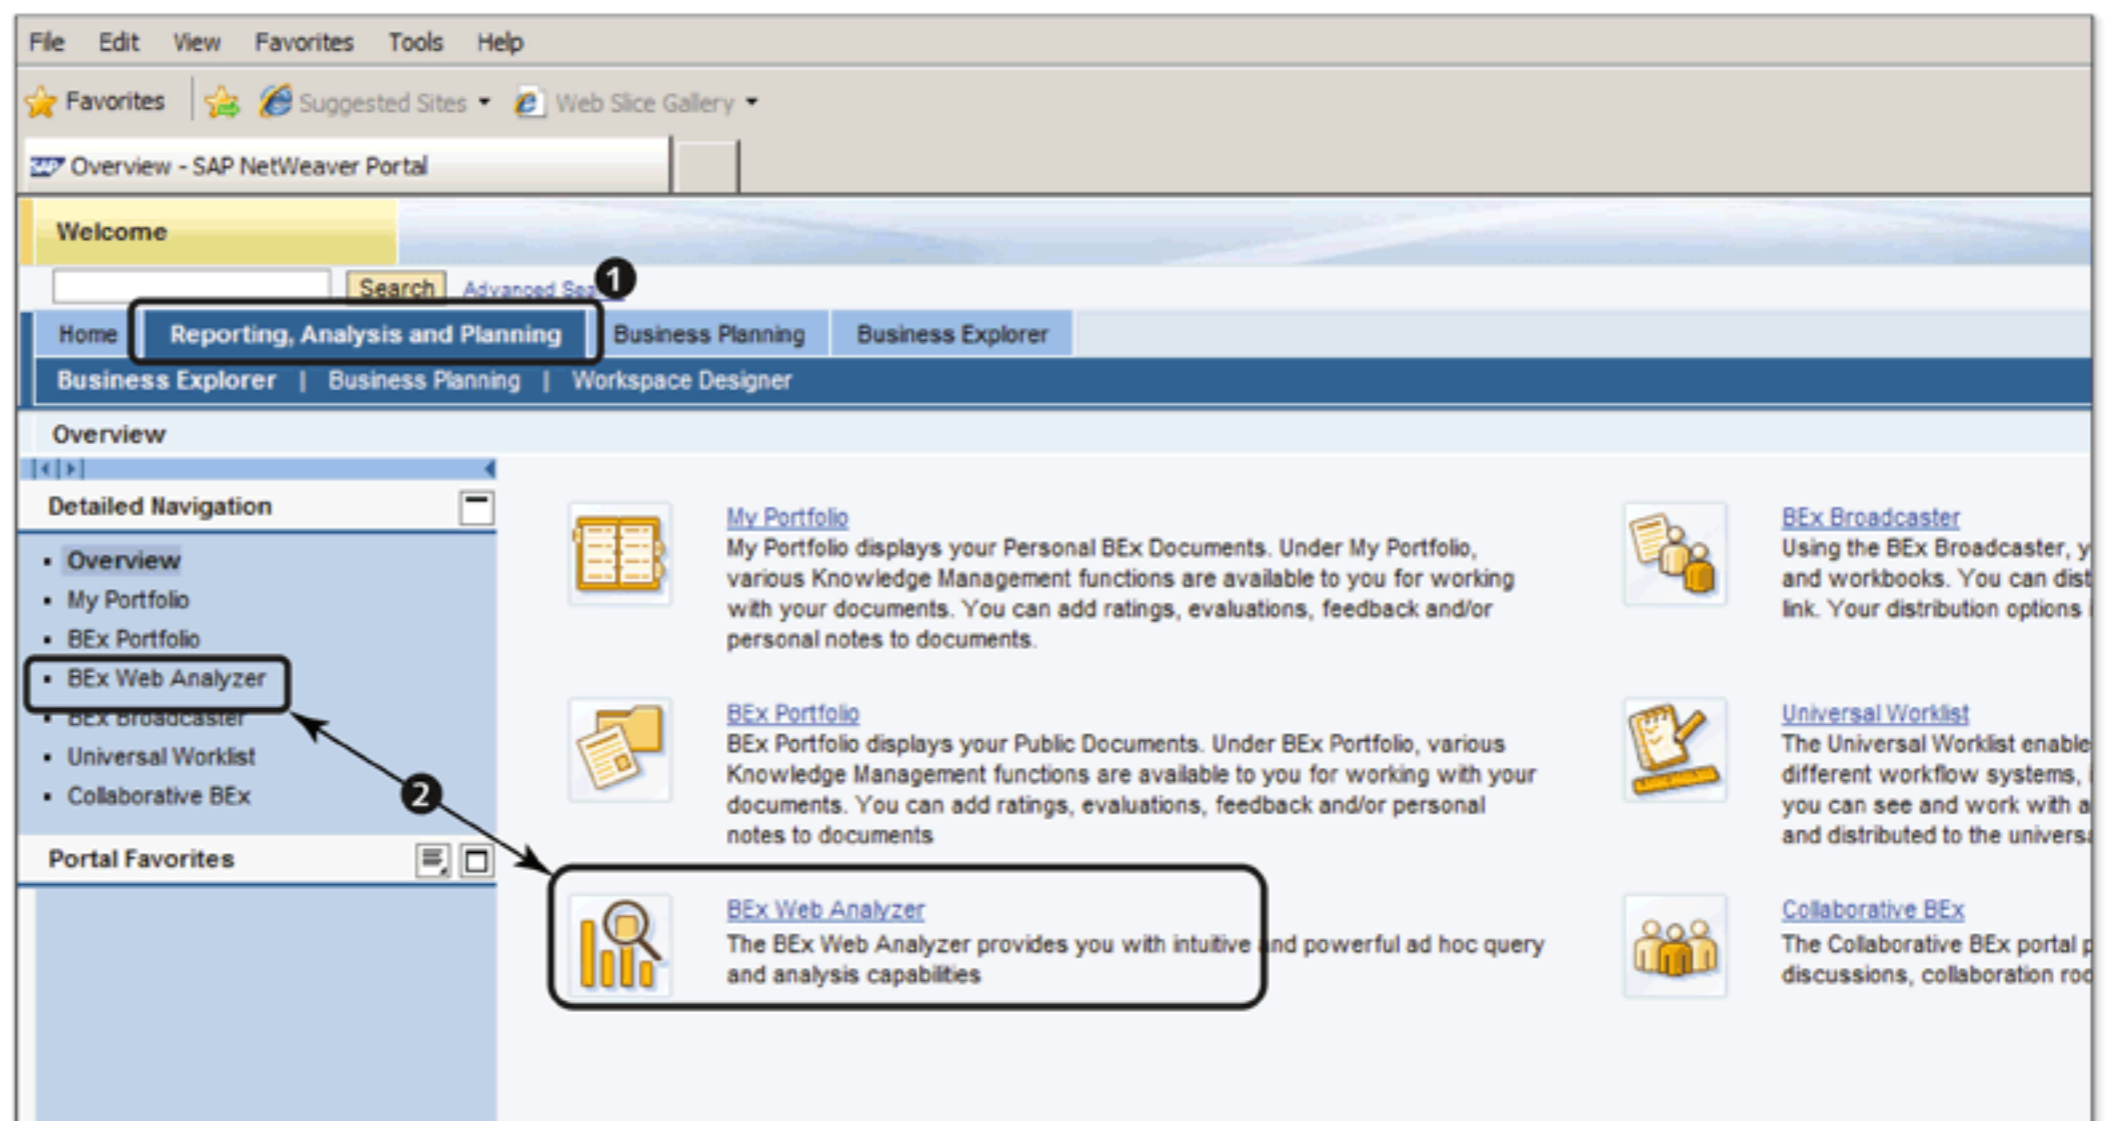

Figure 10.40 Accessing BEx Web Analyzer
You can access BEx Web Analyzer either through a portal or directly through the web browser. The standard REPORTING ANALYSIS AND PLANNING (*com.sap.ip.bi.bi_showcase*) portal role (❶ of Figure 10.40) includes BEx Web Analyzer (❷). Click on the link to open it.